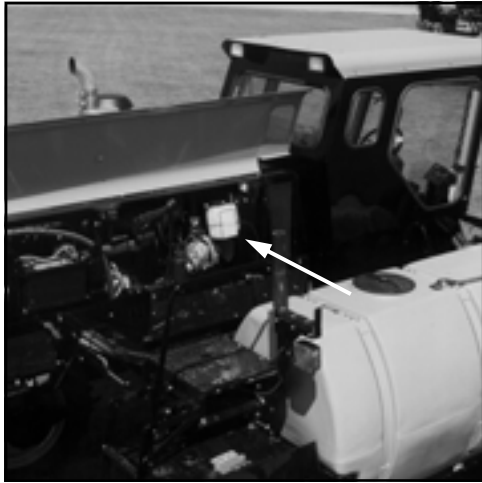

FIG 8.7
**COOLANT RESERVOIR** - The coolant reservoir is located under the right-hand hood behind the radiator (fig. 8.7). Check its level everyday while the engine is cold. Maintain the coolant reservoir level within the normal cold range marks.